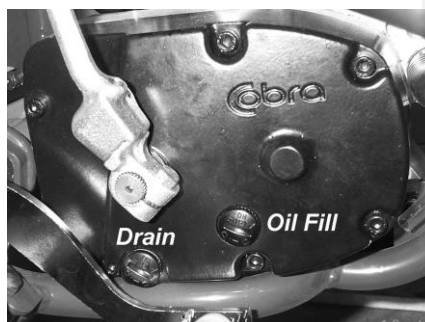

Figure 1
3. Using a 13 mm wrench, remove the oil drain bolt located on the right side of the engine, on the clutch cover, near the brake lever (Item 2, figure 1).